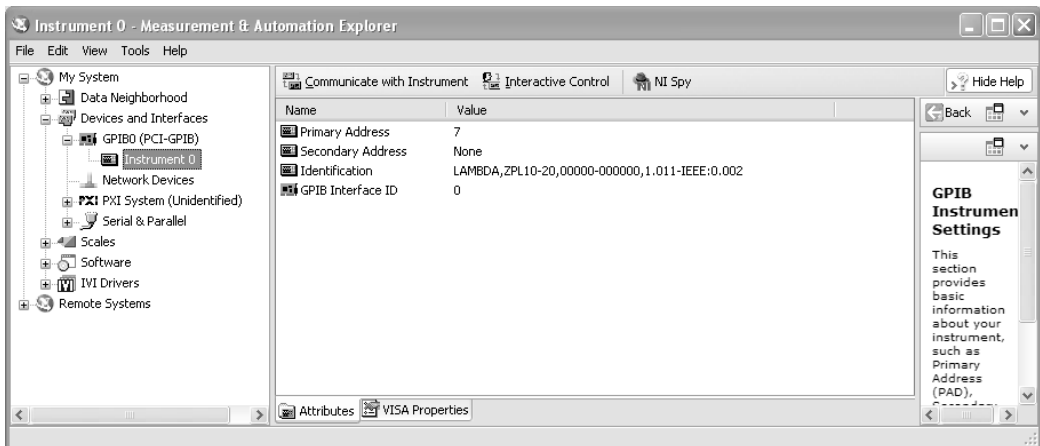

Fig.5-2: Instrument Properties
3. In the right window, click on Instrument0 and review the device properties. Refer to Fig.5-2